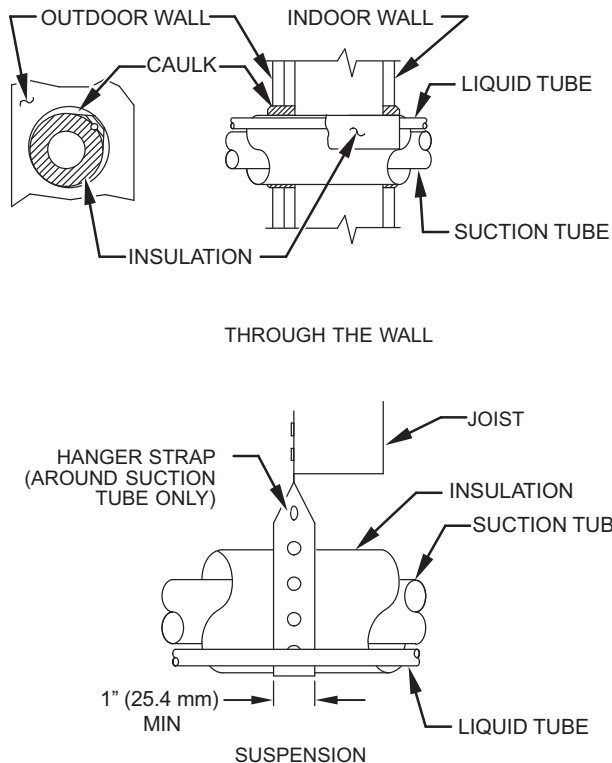

Fig. 1 – Connecting Tube Installation
5. When passing refrigerant tubes through the wall, seal opening with RTV or other pliable silicon-based caulk. (Fig. 1.)
7. Do not suspend refrigerant tubing from joists and studs with a rigid wire or strap which comes in direct contact with tubing. (Fig. 1.)
9. When necessary, use hanger straps which are 1 in. (25.4 mm) wide and conform to shape of tubing insulation. (Fig. 1.)